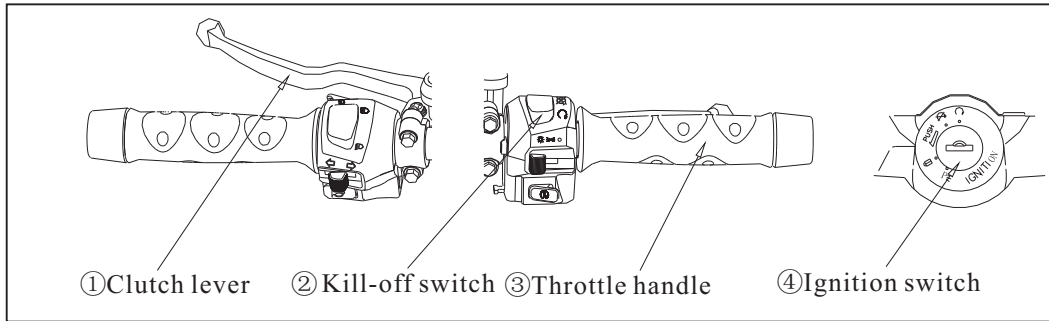

Figure11 Start-up Preparation
### (3) Start-up of Motorcycle (Figure11)